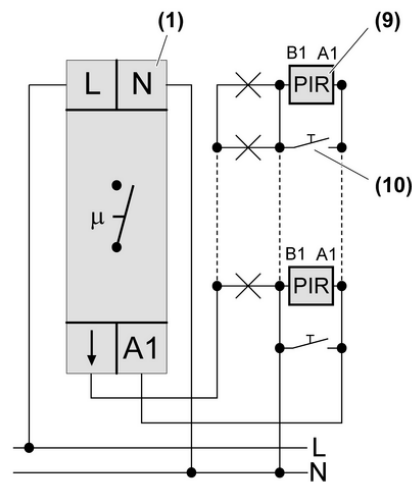
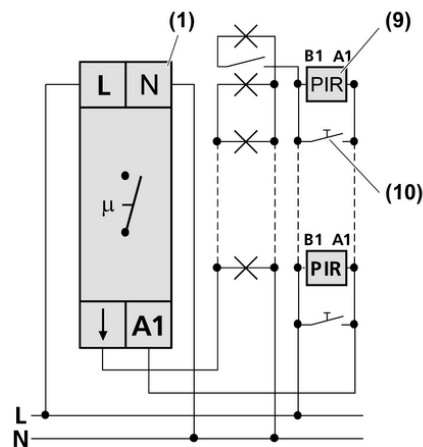

Figure 3: Connection diagram for 3-conductor circuit
Figure 4: Connection diagram for 4-conductor circuit
The automatic RMD can be used for a 3-conductor circuit (Figure 3) or a 4-conductor circuit (Figure 4). The 4-conductor circuit has the advantage that an additional luminaire can be switched separately.
- Connect automatic RMD, pulse insert 9) and installation button according to connection diagram (Figure 3) or (Figure 4).